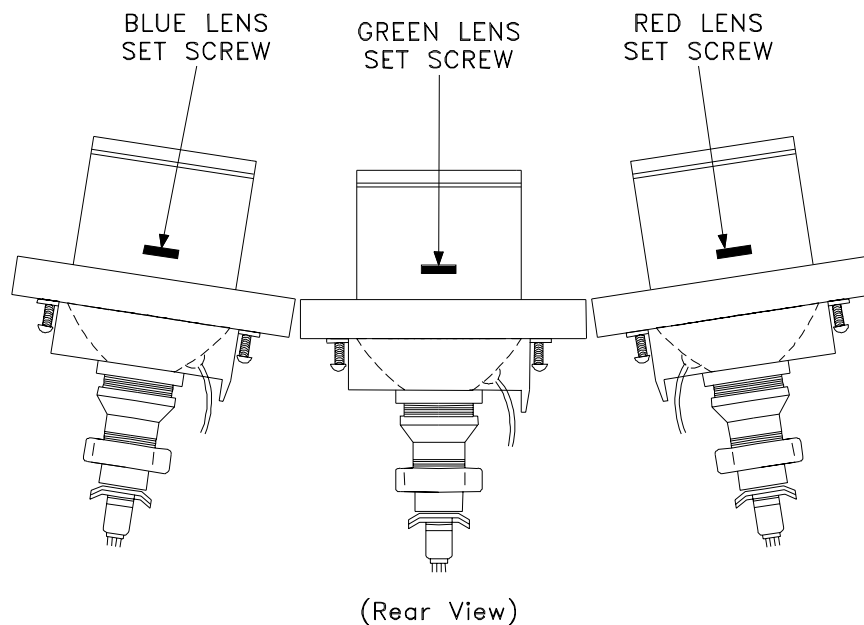

Figure 5
- a) Position the Lens so that the Lens Adjustment Set Screw faces the rear of the TV [Figure 5].